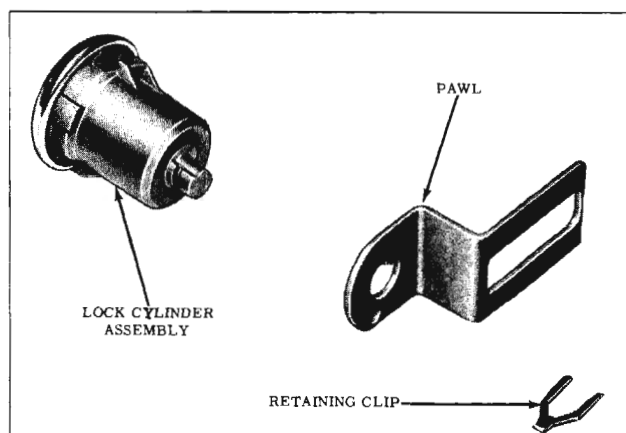

Fig. 16-252 Door Lock Cylinder
2. With a suitable tool, remove retainer and pawl. (Fig. 16-252)